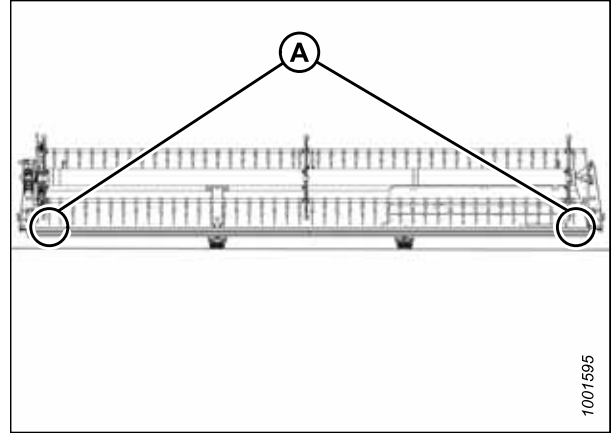

Figure 4.264: FlexDraper® Measurement Locations – Single Reel
- Single-reel headers: Figure 4.264, page 425